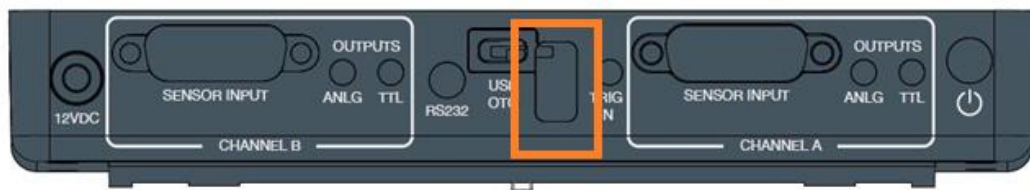

Figure 3-20 Upper panel of Centauri Meter with USB input highlighted
3. Insert the flash drive into the USB port that is found on the upper panel of the meter (see Figure 3-20).